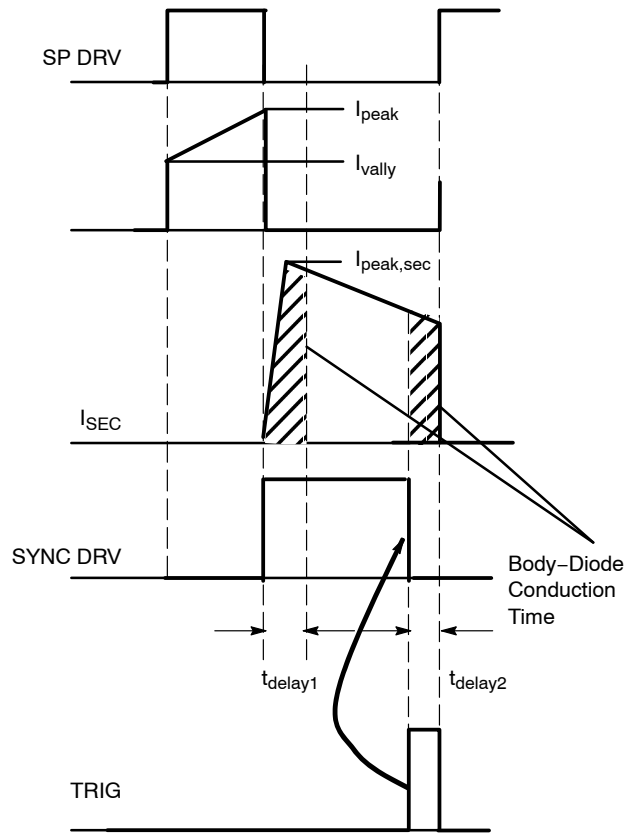

Figure 32. Continuous Conduction Mode Waveforms
When operating in continuous conduction mode (CCM) the current in the secondary doesn't fall to zero prior to turning on the primary side MOSFET. To eliminate cross conduction losses (have the primary side MOSFET and secondary side MOSFET on at the same time) the trigger input to the NCP4302 must be utilized. A signal which leads the Primary Side (SP) MOSFET turning on must be coupled to the TRIG input of the NCP4302 which will turn-off the SS MOSFET referring to Figure 32.